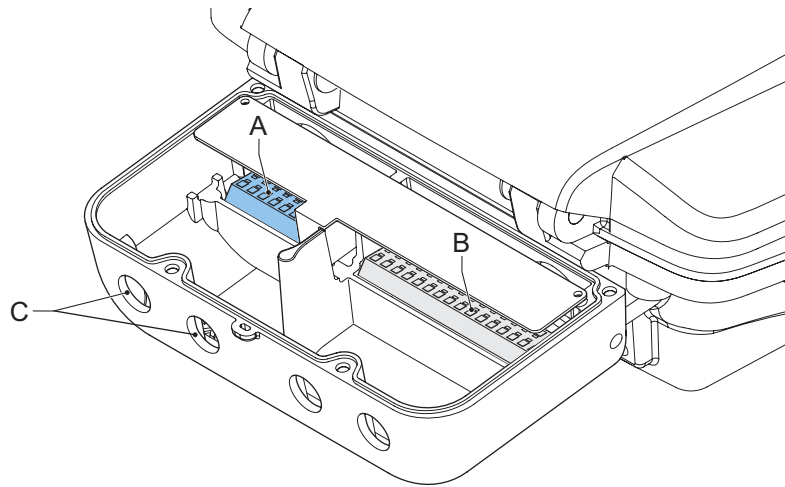
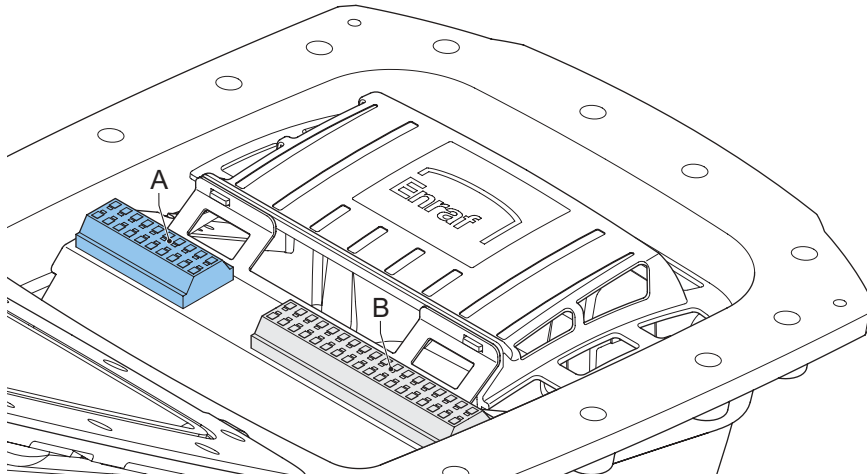

Fig. 4.6 Ex-i entry with SmartConn
Fig. 4.7 Terminal layout without SmartConn
The terminal compartment is located at the rear, inside of the device (refer to figure 4.7). If there is a SmartConn present, you use the terminals of the SmartConn (refer to figure 4.6). These terminals are numbered identical to the terminal compartment in the device.
The intrinsically safe cabling must enter at the gland (C) only. This entry is marked "Ex-i". Refer to figure 4.6. "Ex-i entry with SmartConn". Blue marked cables are recommended for the intrinsically safe options.